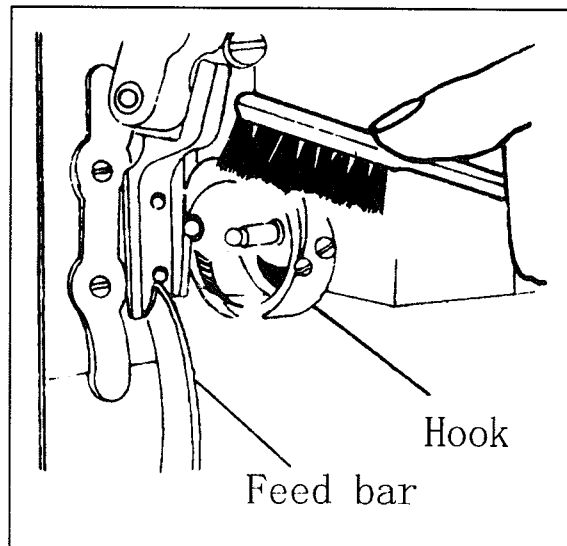

Fig. 33
2) Cleaning rotating hook (See Fig 33)